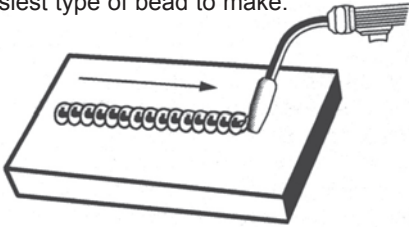

Figure 12. Stringer Bead
1. The **STRINGER BEAD** (Figure 12) is formed by traveling with the torch in a straight line while keeping the wire and nozzle centered over the weld joint. This is the easiest type of bead to make.